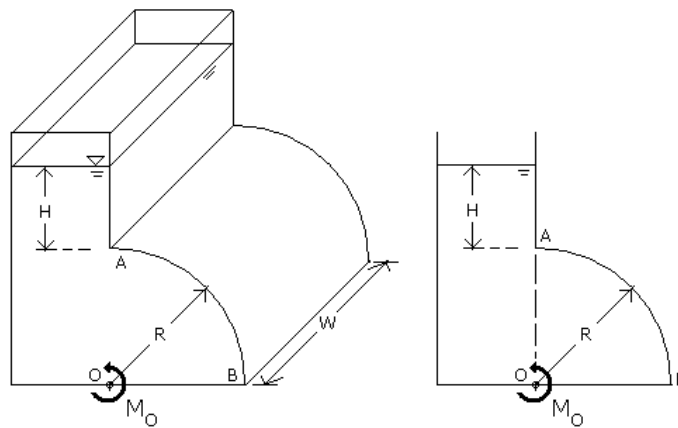

Figure 10: Steel tank rectangular section and a quarter of a circle
- [b] The Figure 10 below shows a steel tank composed of a rectangular section and a quarter of a circle (AB) of radius $R = 2.0 \text{ m}$. The tank is filled with water as shown. The tank width is $W = 3.0 \text{ m}$, and the water reaches a depth $H = 1.5 \text{ m}$ above the top of the circle. Determine the moment with respect to an axis through point O produced by the vertical component of the hydrostatic force on AB. (The location of the centroid for a quarter of a circle is shown in the figure to the right).